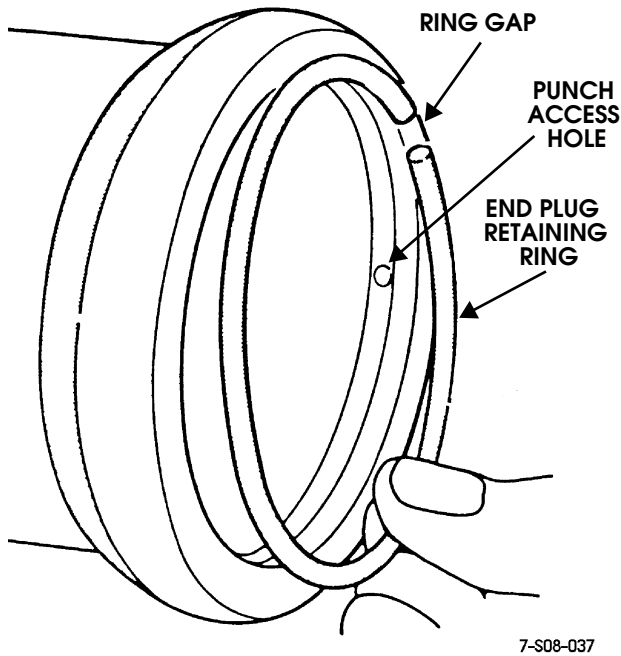

Figure 8-64: Positioning End Plug Retaining Ring in Housing
8. Install end plug retaining ring. Position ring ends so neither one is aligned with punch access hole in gear housing (Figure 8-64).